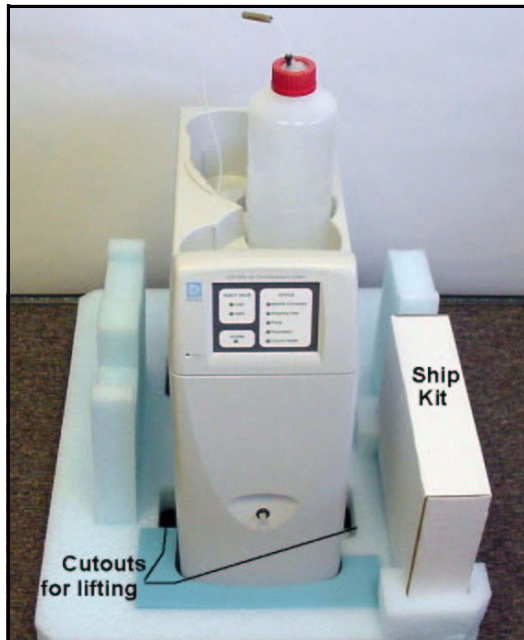

Figure 3. ICS-1000 with Ship Kit
3. Remove the next layer of foam and remove the Ship Kit box (see Figure 3).
4. The bottom foam layer has two cutouts on either side of the ICS-1000 module; use these as hand holds when lifting the module (see Figure 3).